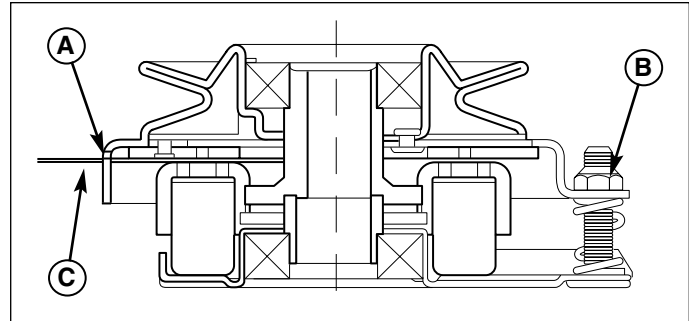

Figure 46. Adjust PTO Clutch
3. Insert a .016"-.018" (0,40 - 0,45 mm) feeler gauge (C) through each window, positioning the gauge between the rotor face and the armature face as shown in Figure 46.